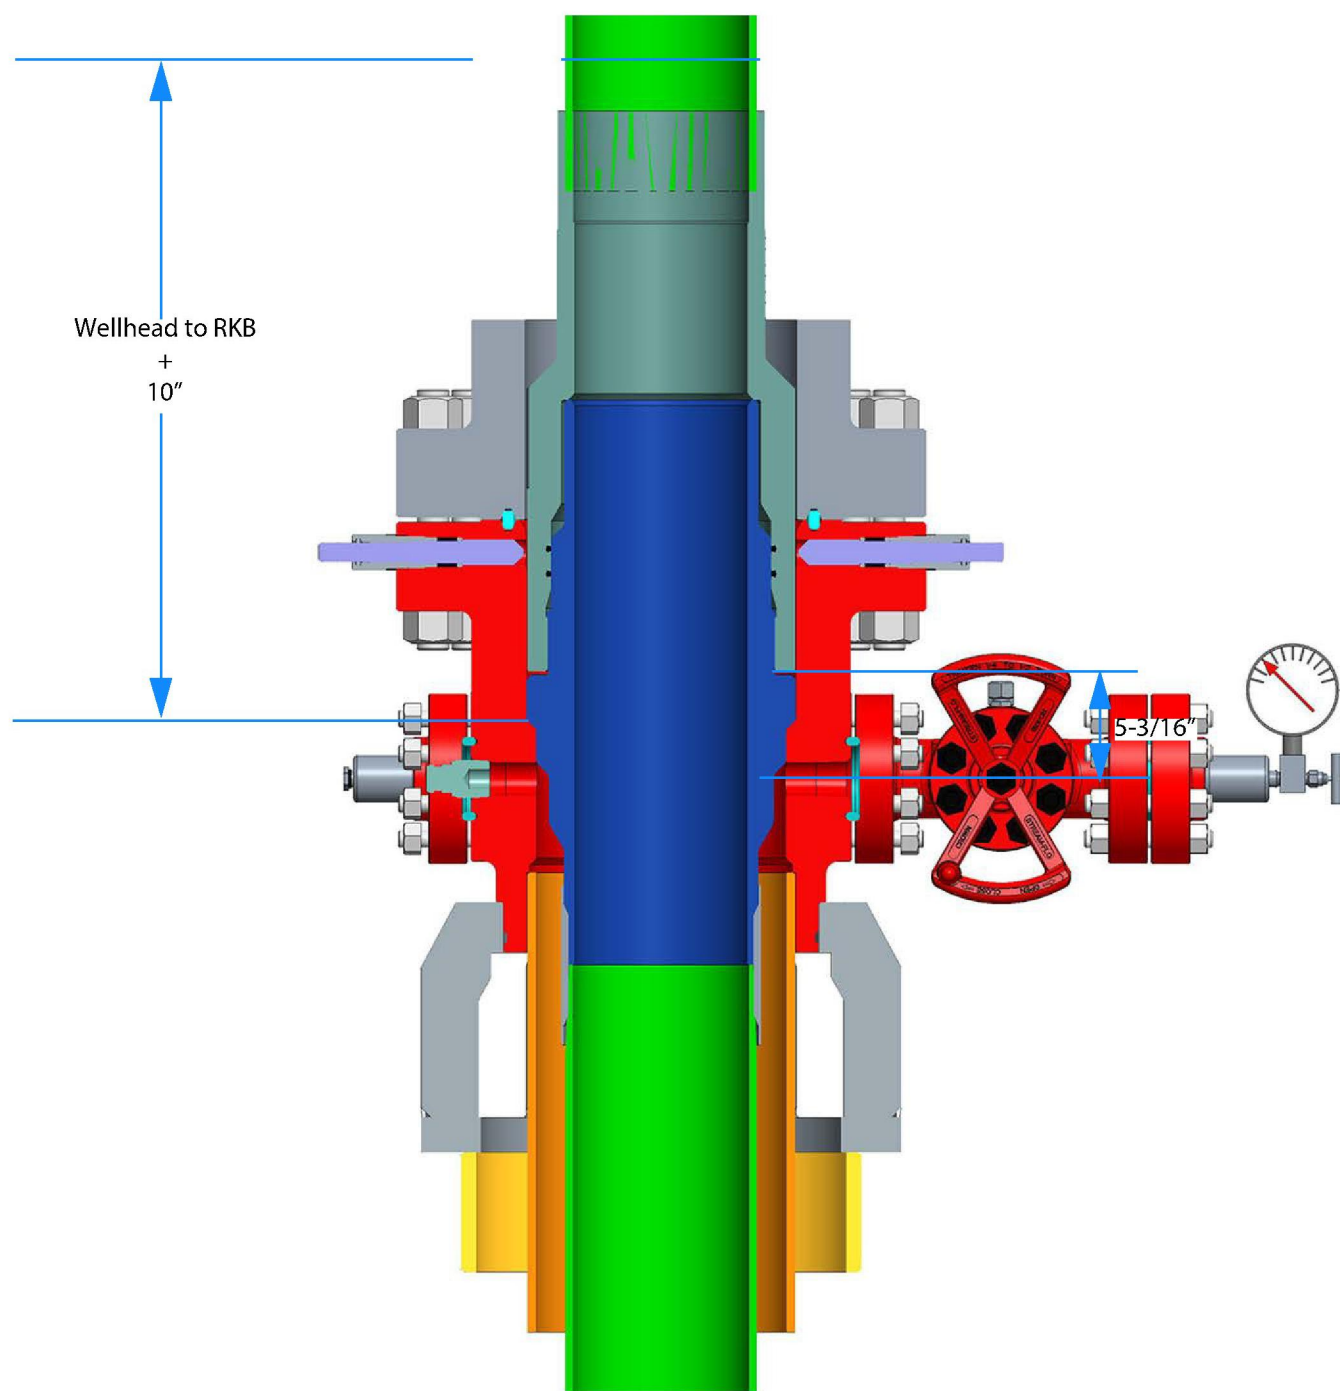

Figure 16
14. Once the shear pins have sheared, continue to rotate the running tool counter-clockwise noting when the running tool was made up or until you feel a thread 'bump'. The running tool will require approximately 11-12 turns to disengage and the mark on the landing joint should raise around 2-3/4" from the rig floor (see Figure 16). The lower mark on the landing joint will be flush with the rig floor.